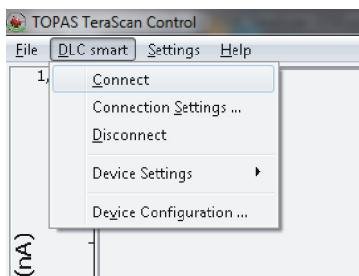

Figure 26 TOPAS TeraScan Control – DLC smart menu
4. Select **DLC smart > Connection Settings** (see Figure 26).